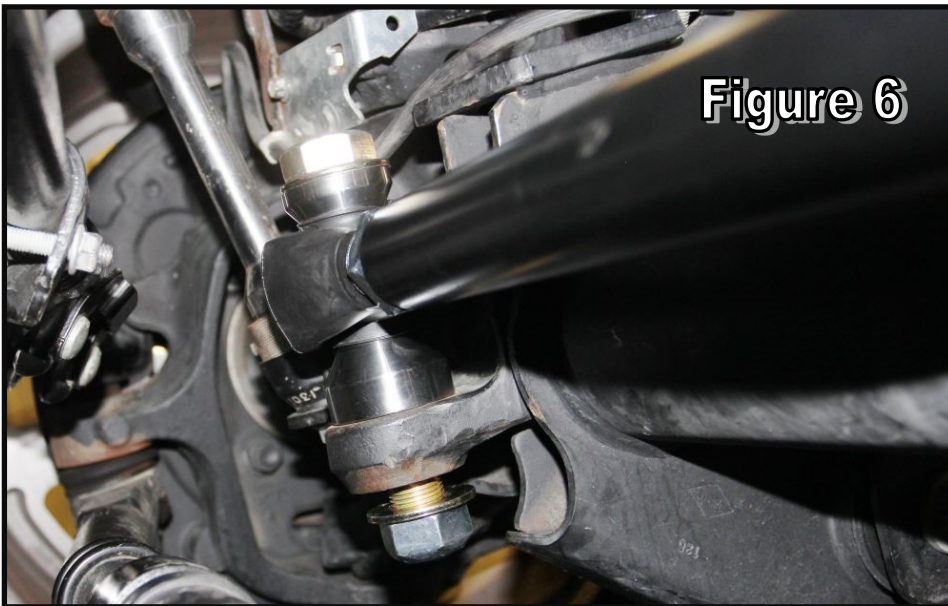

Figure 6
14. Install this assembly into the tapered axle mount of the track bar, followed by another 7/8" washer and the lock nut. **[Figure 6]**